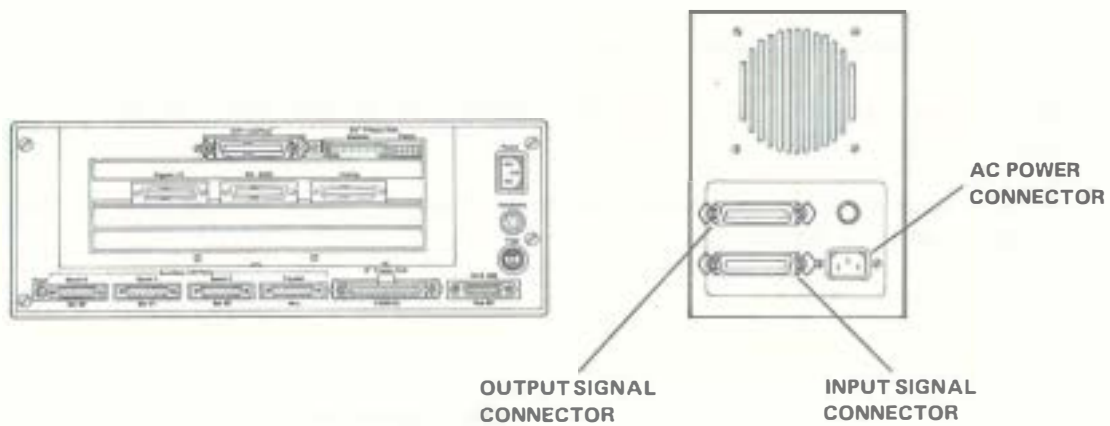

Figure 5-22. 5 $\frac{1}{4}$ " Diskette Drive Assembly Connections
7. Disconnect the two connectors and remove the diskette drive. See Figure 5-22.
3. Disconnect the power cord and all other connectors on the rear of the diskette drive assembly. See Figure 5-22.
6. Reconnect the power cord and all other connectors that were removed from the rear of the diskette drive assembly. See Figure 5-22.